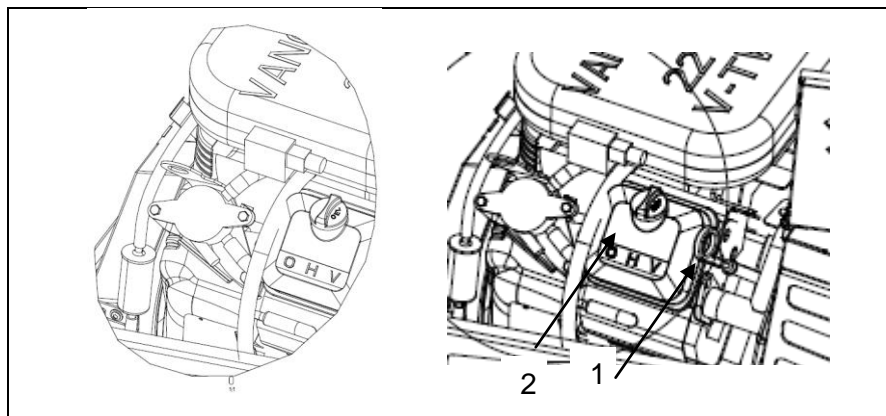

Fig. 6-2: Oil dipstick
1. Pull out the dipstick (Fig. 6-2-(2)) and wipe it off with a clean cloth.
1. Remove oil screw plug (Fig. 6-2-(1)). Pull out the dipstick for easier filling (Fig. 6-2-(2)).